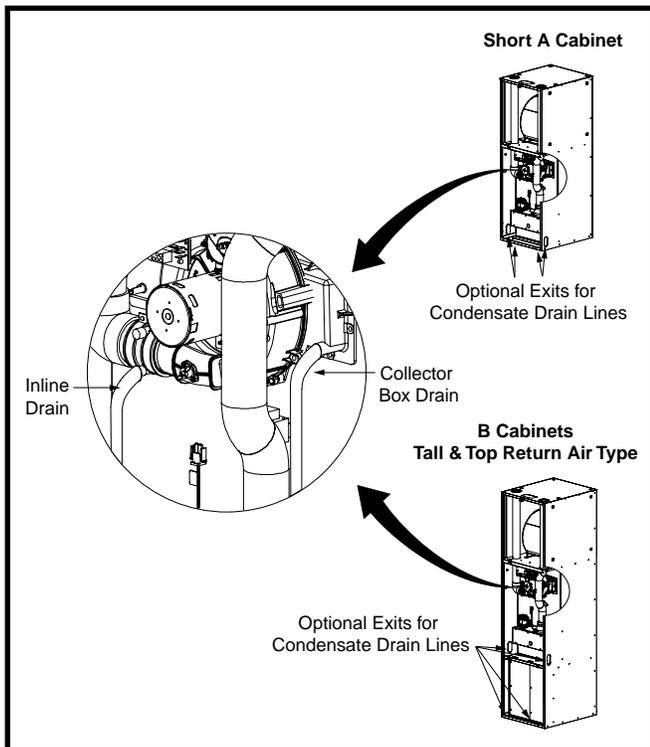

Figure 17. Condensate Drainage
1. Remove the collector box soft tube (Figure 17) and verify the exit from the collector box is clear of any debris or obstructions.